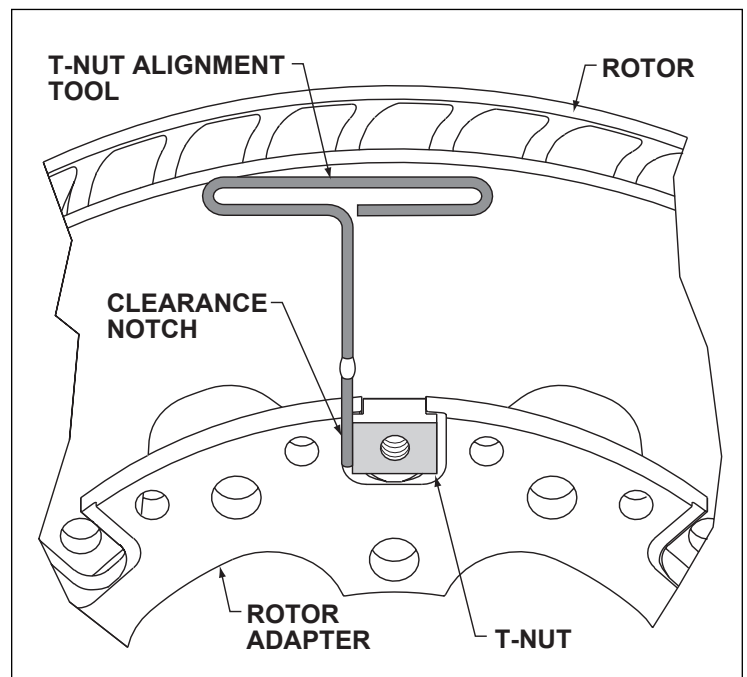

Figure 2. T-Nut Alignment Tool Use Diagram
• After all eight bolts are assembled in the loose position, use the alignment tool as indicated (Figure 2 and instructions below) to properly position the T-Nuts, ensuring optimum rotor to adapter float.
Position the alignment tool in the corner of the rotor adapter clearance notch (Figure 2) and torque to 19 ft-lbs, \pm 1 ft-lb. Remove the alignment tool and repeat the procedure on the opposite bolt and T-Nut. Continue this procedure in a criss-cross pattern until all bolts are torqued. Always position the alignment tool on the same side of the T-Nut during this torque procedure. Any attempt to check torque without the alignment tool in place will result in the twisting of the T-Nut, and will reduce or eliminate the clearance required for proper float.